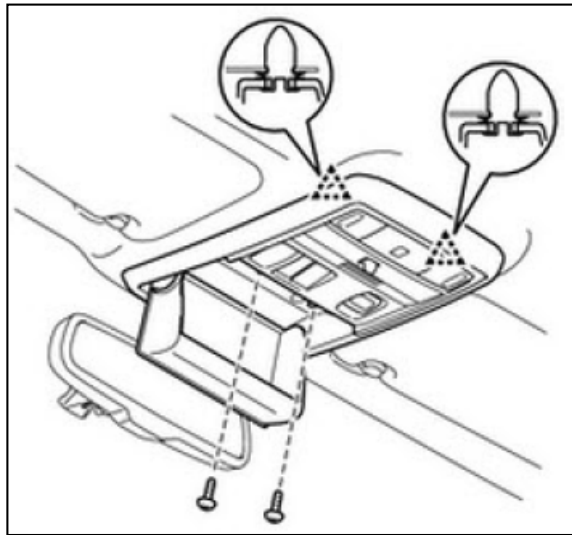

Figure 21
21. Connect the connector. Attach the 2 clips to install the map light assembly. Install the 2 screws. See Figure 21.